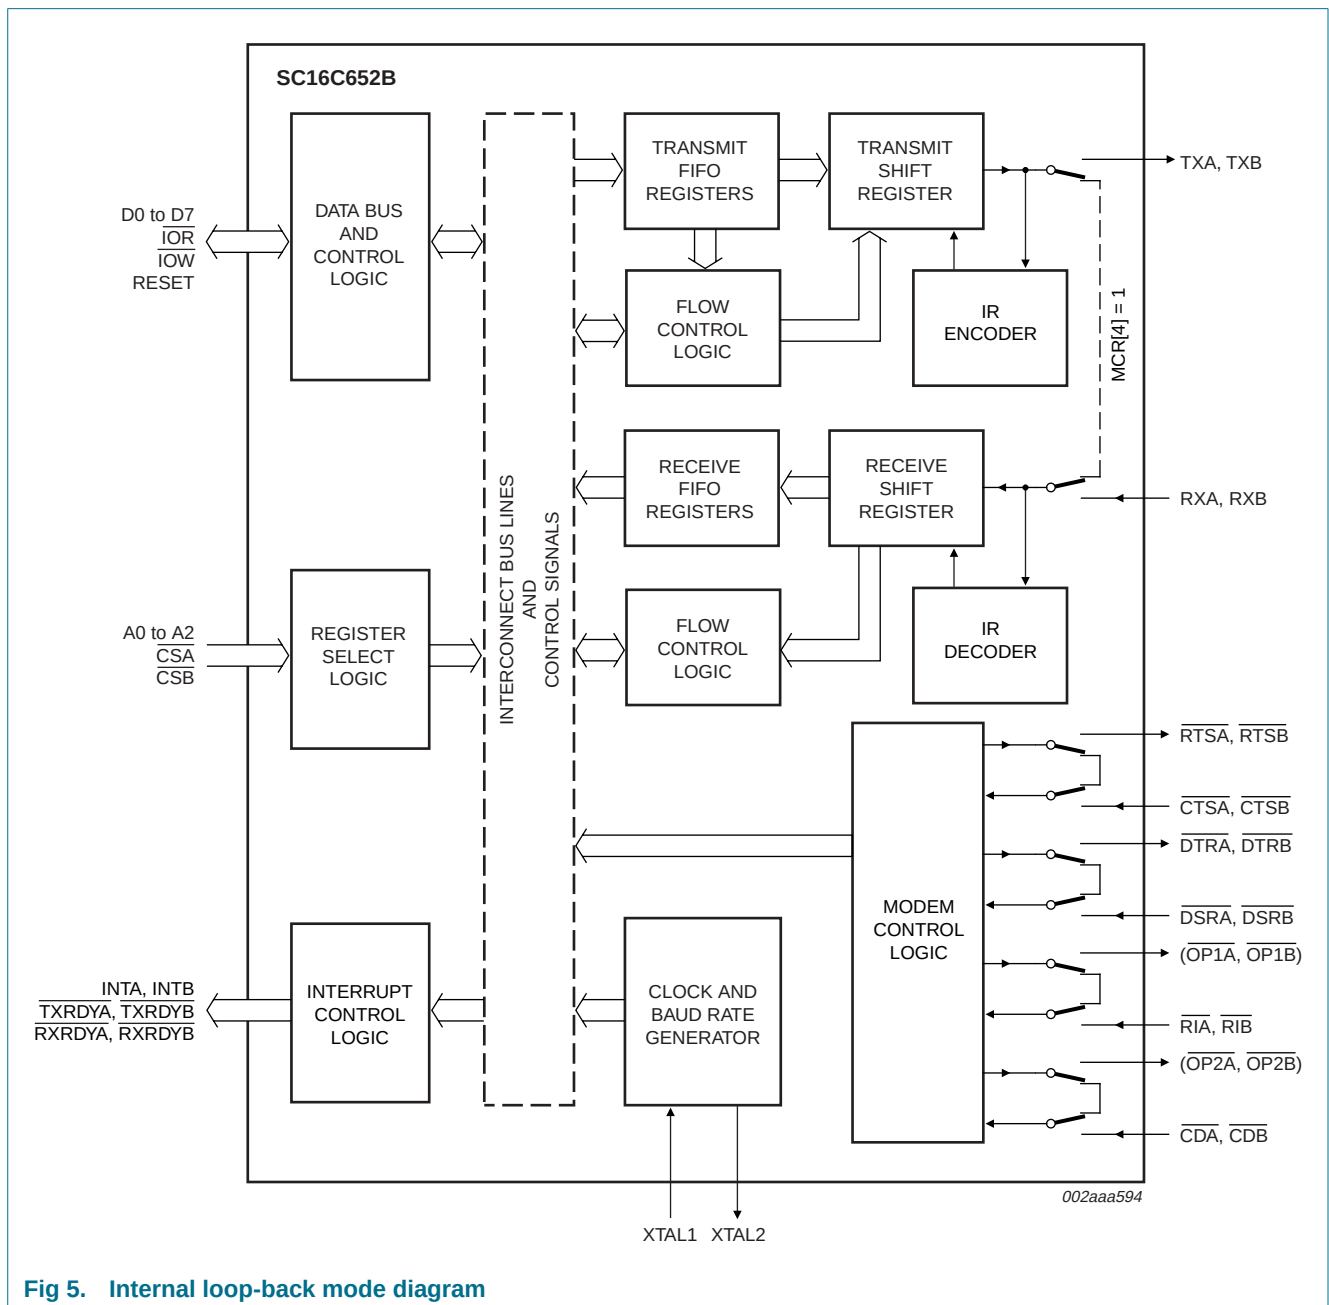

Fig 5. Internal loop-back mode diagram
The internal loop-back capability allows on-board diagnostics. In the loop-back mode, the normal modem interface pins are disconnected and reconfigured for loop-back internally (see Figure 5). MCR[3:0] register bits are used for controlling loop-back diagnostic testing. In the loop-back mode, the transmitter output (TX) and the receiver input (RX) are disconnected from their associated interface pins, and instead are connected together internally. The $\overline{\text{CTS}}$, $\overline{\text{DSR}}$, $\overline{\text{CD}}$, and $\overline{\text{RI}}$ are disconnected from their normal modem control inputs pins, and instead are connected internally to $\overline{\text{RTS}}$, $\overline{\text{DTR}}$, MCR[3] (OP2) and